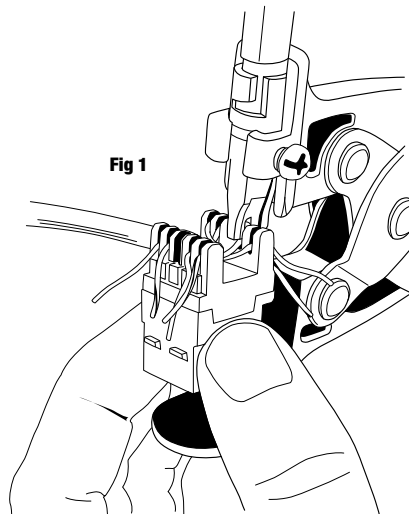

Fig 1
- 3) Position the prepared jack into the blade (**Fig 1**) lining up the IDC with the blade. Squeeze the tool until the jack and the base come together.